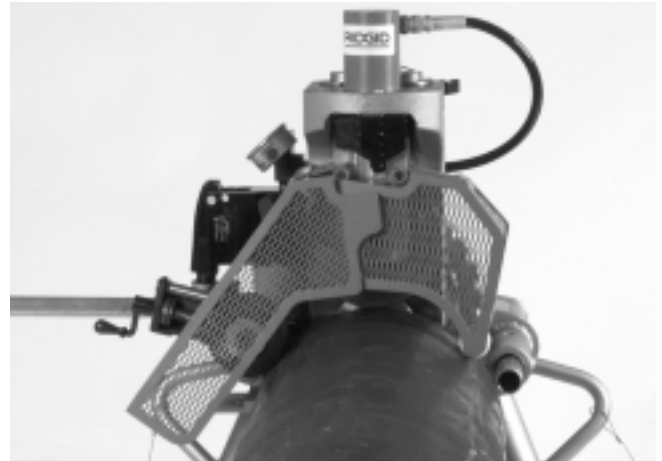

Figure 14 – Guards in the Operating Position
2. With pressure applied to the hydraulic cylinder and the upper roll in the grooving position, the guards should be in the closed or operating position as shown in Figure 14. The guard on the operator side will move in and out with the adjustment of the stabilizer.